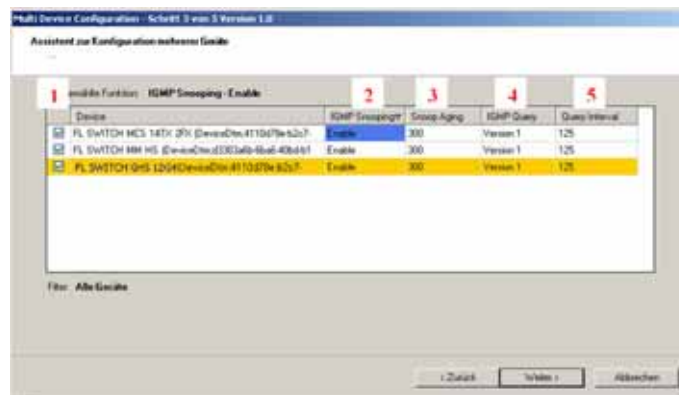

Figure 4-20 IGMP settings in the MDC wizard
- In the table, devices that are not to be modified can be deactivated (uncheck device) (see Figure 4-20/item 1)
- In the table, devices can be simultaneously activated or deactivated (see Figure 4-20/item 2)
- In the table, different aging times can be selected for the individual devices (see Figure 4-20/item 3). A response is received from the devices within the set time and multicast groups are created dynamically. This time must always be longer than the querier interval (see item 5).
- For each device, the querier can be set to Version 1, Version 2 or disabled (see Figure 4-20/item 5)
- The interval during which a querier request is sent can be set individually for each device (see Figure 4-20/item 5). All multicast devices then send back a response.